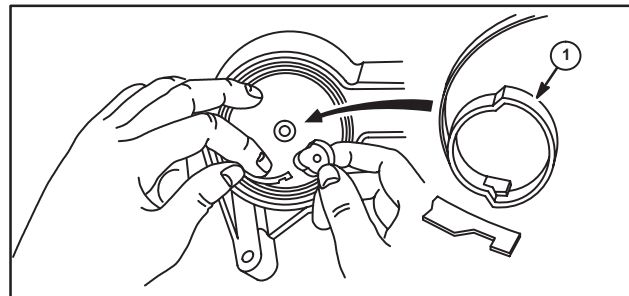

Fig. 58
- Install spring anchor (1) on free end of spring and install pulley cover, Fig. 58. Do not install anchor screw at this time.